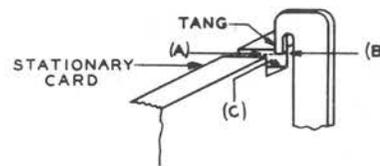

Fig. 35—Spring Tang Position—Latch Assembly
- (a) The end of the spring tang [Fig. 35, (A)] shall be below the top surface of the stationary card by
- (b) The full width of the spring tang shall engage the notch [Fig. 35, (B)] of the stationary card. Gauge by eye.
- (c) When the spring tang is moved in the direction of spring travel [Fig. 35, (C)] from the normal rest position, the tang shall not rub on the stationary card. Gauge by eye and feel.